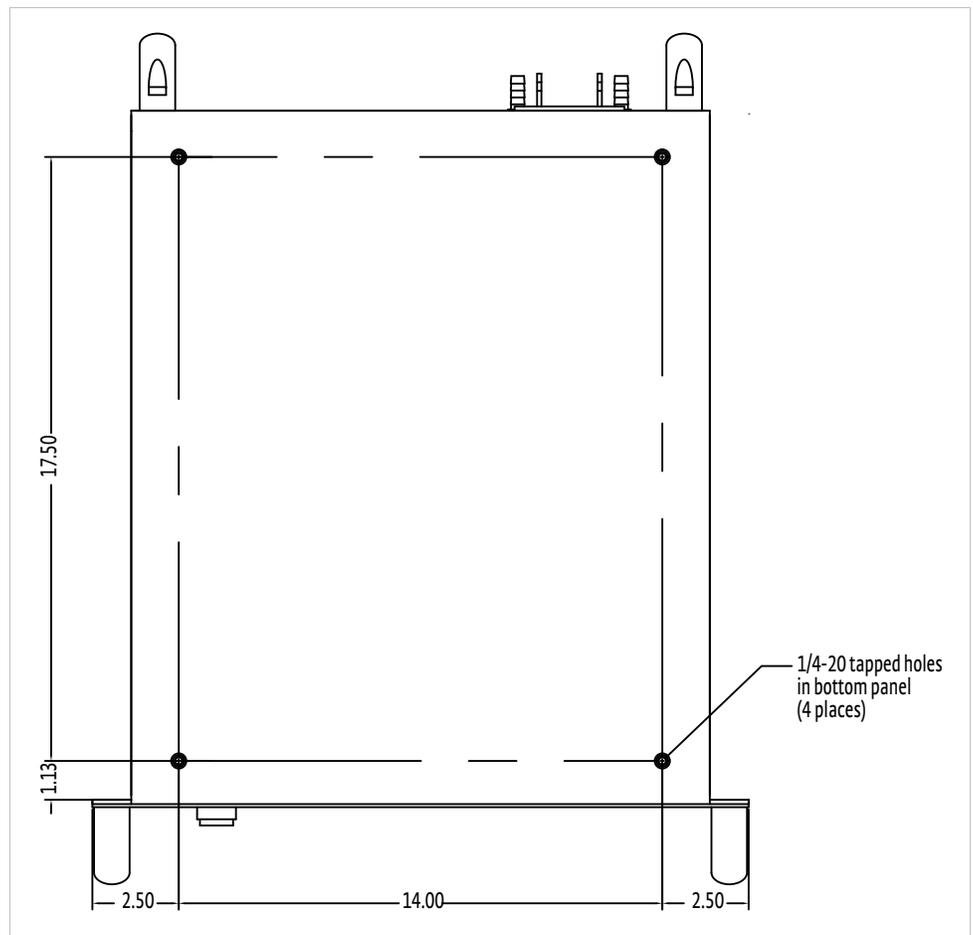

FIGURE 3-15 Mounting hole pattern
In addition, if you need to ship the equipment rack which houses the Model 643, it must be anchored to the shelf. Threaded inserts are provided in the bottom of the Model 643 for this purpose. Four (4) $\frac{1}{4}$ -20 \times $\frac{1}{2}$ in bolts (not included) are required. The hole pattern for mounting is shown in FIGURE 3-15.